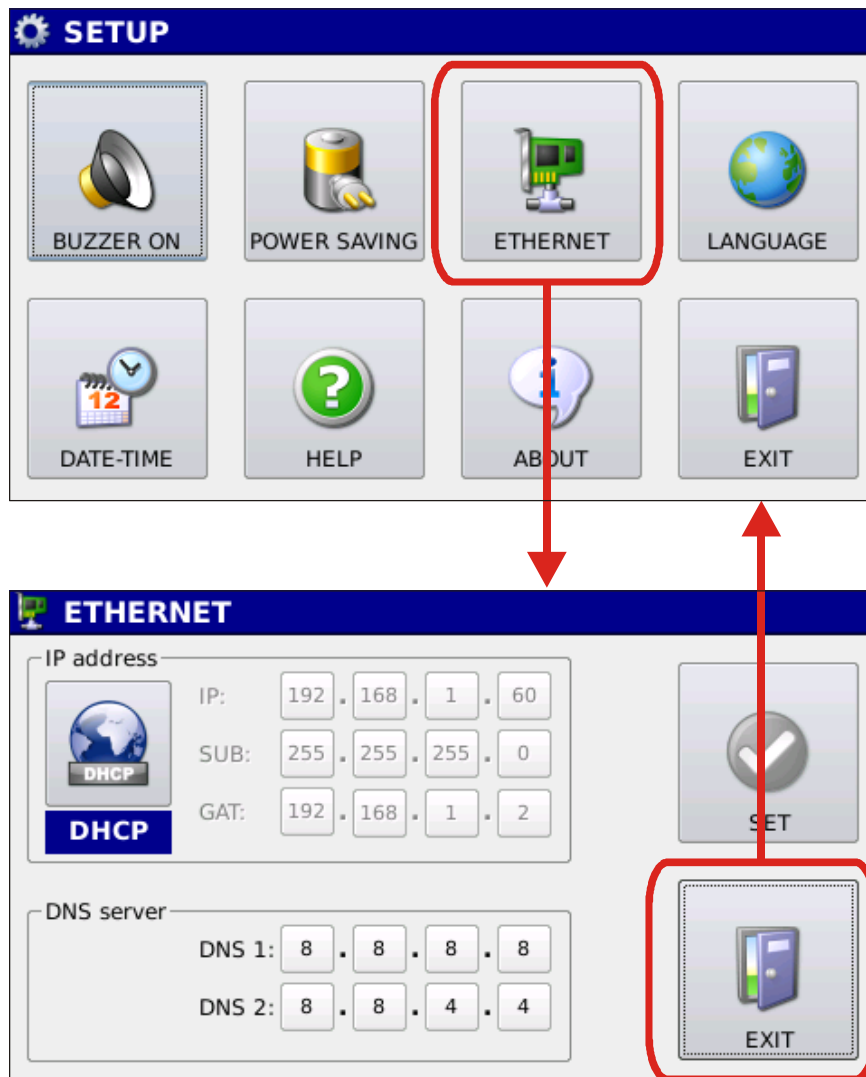

Fig. 6.7 Ethernet connection configuration menu.
6.3 **Network connection configuration.** By pressing the Ethernet key allows you to access the window for managing connection to the instrument network (Figure 6.7).